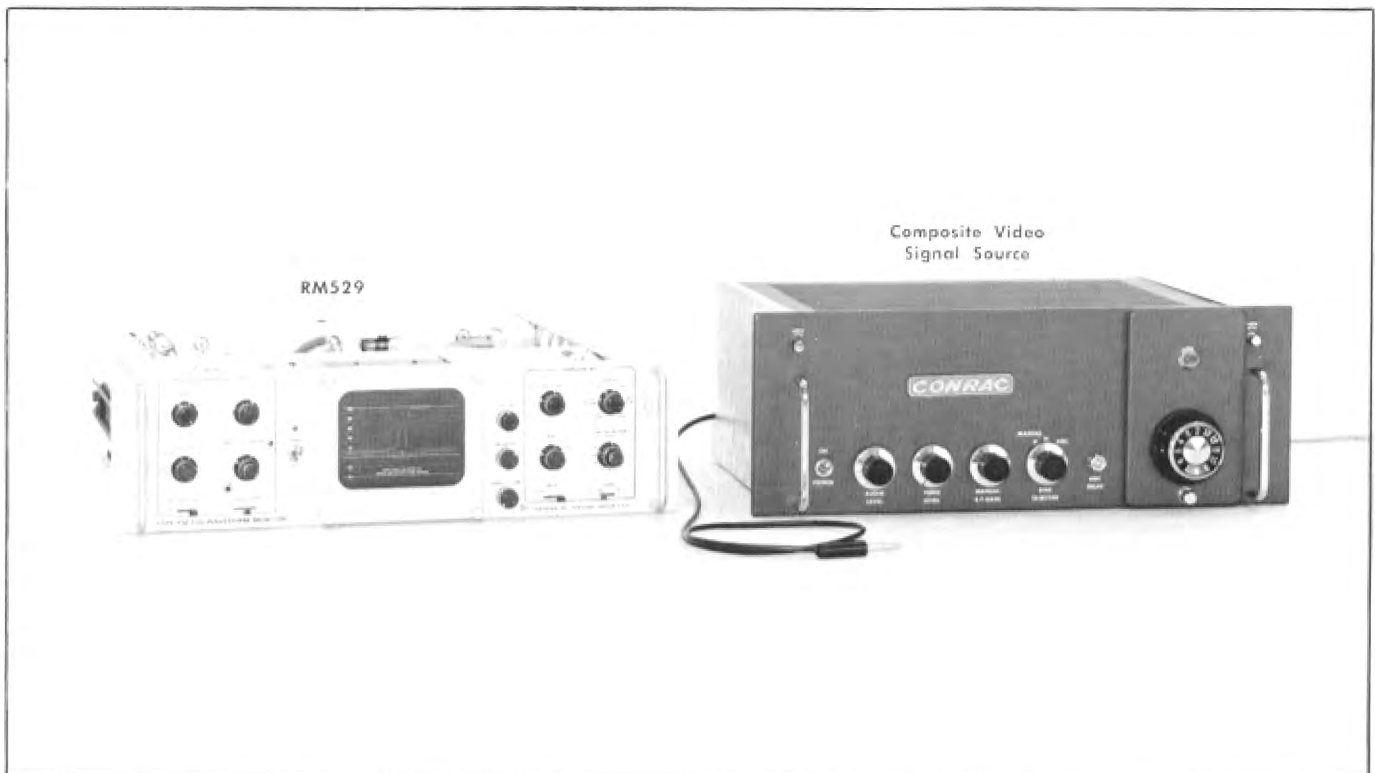

Fig. 6-13. Test equipment required for steps 12, 13 and 14.
12. Adjust TRIG MULTI BIAS (R325) ❶
- a. Test equipment setup is shown in Fig. 6-13.